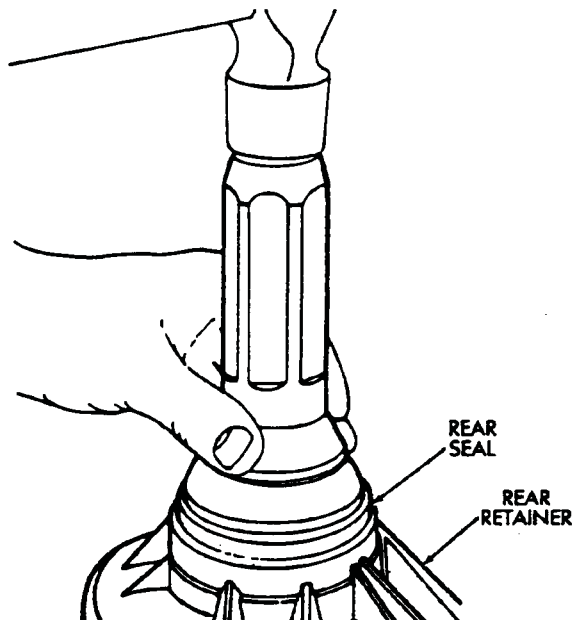

Fig. 4-38 Rear Retainer Seal Installation
23. Install new seal in rear retainer (Fig. 4-38).